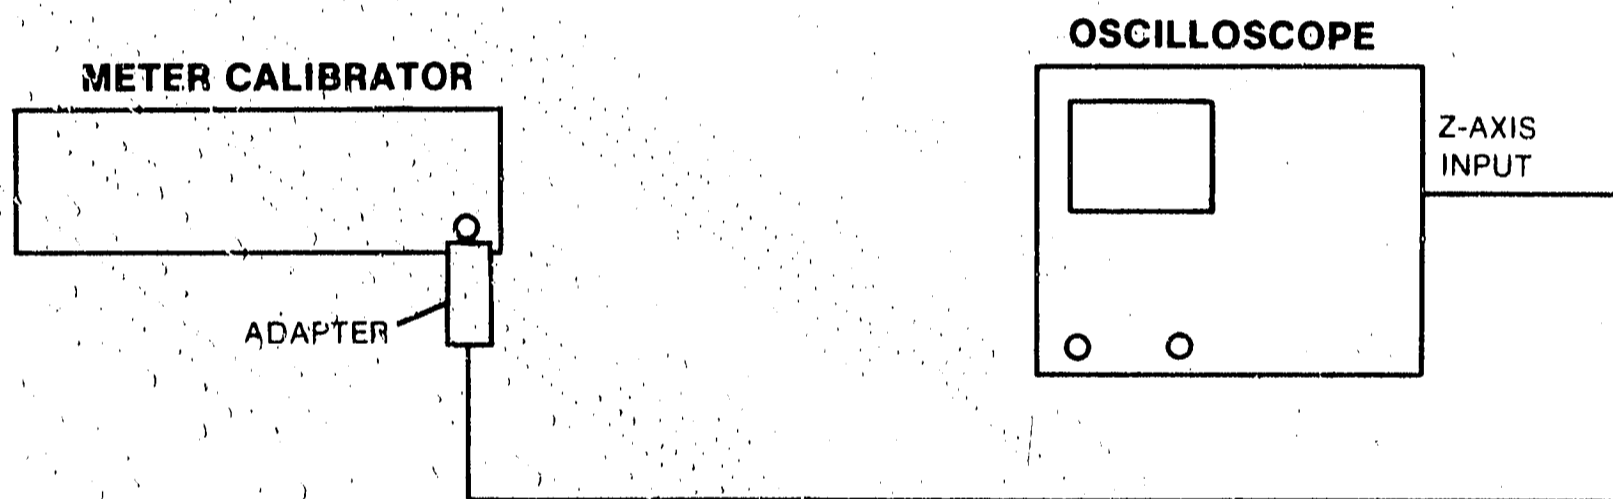

Figure 4-9, Z-axis Blanking Test Setup
- a. Connect equipment as shown in figure 4-9.